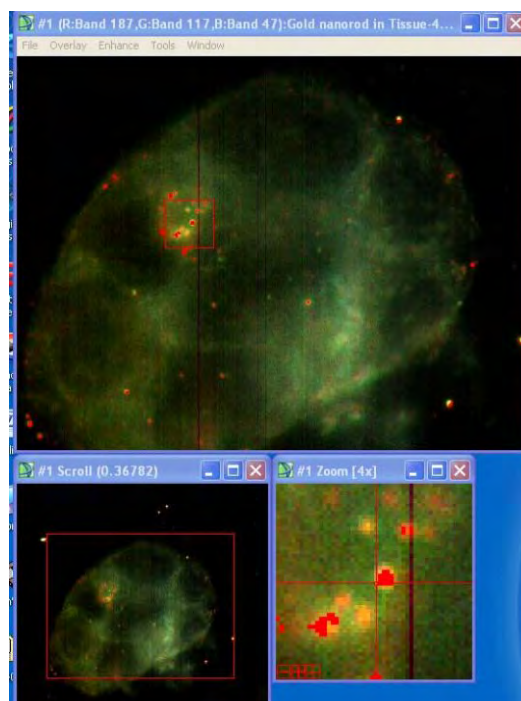

Figure 26. View of the images overlayed
4. Now you will see an overlay image of your classified picture and the original image (see Figure 26)